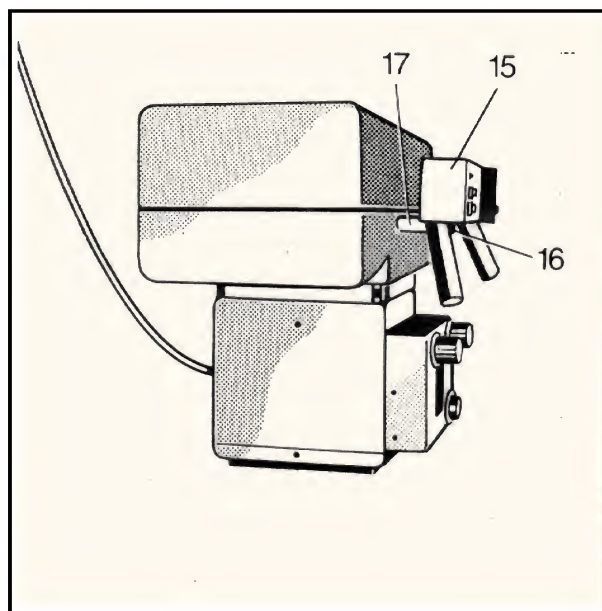

Fig. 7
Fasten control handle (Fig. 7/item 15) to the "Polyphos Single Tank" by means of spacer bushings (item 17) and screws (item 16).